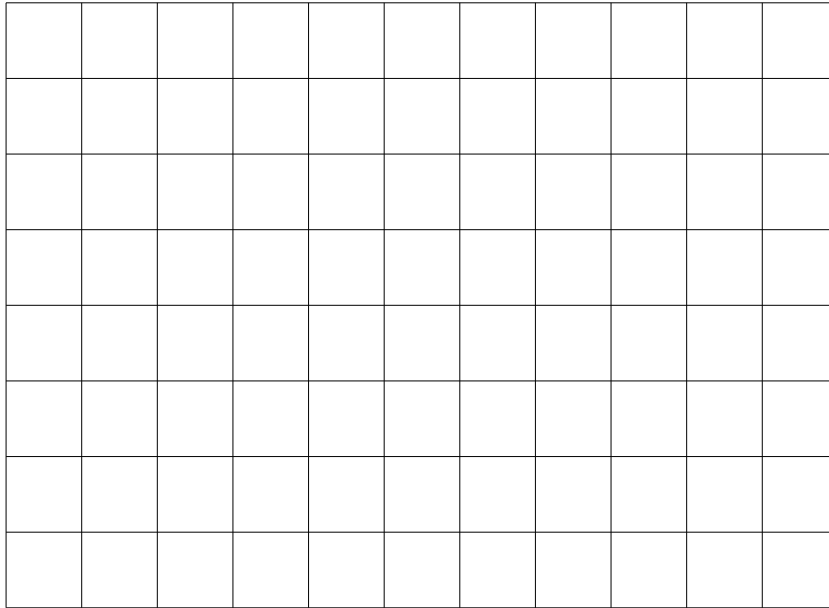

**Figure 15:** Plot for  $V_C$ .
- 3.1.8 Sketch and label the waveforms obtained for  $V_C$  and  $V_R$  in Fig. 15 and Fig. 16, respectively.